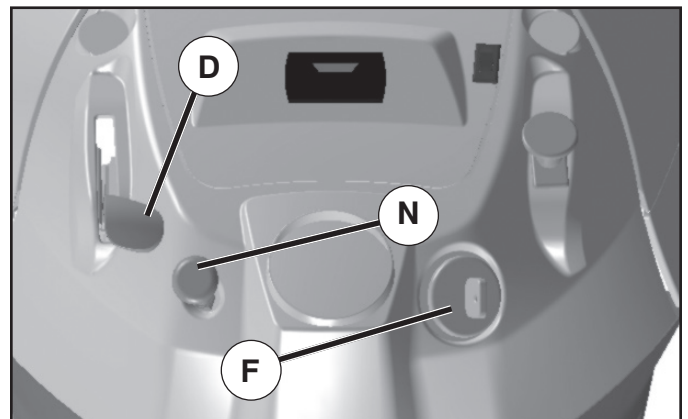

Fig. 18
- Move throttle control (D) between half and full speed (fast) position.
- Turn ignition key (F) to "STOP" position and remove key. Always remove key when leaving tractor to prevent unauthorized use.
### TO USE THROTTLE CONTROL (D) (See Fig. 18)
### TO USE CHOKE CONTROL (N) (See Fig. 18)